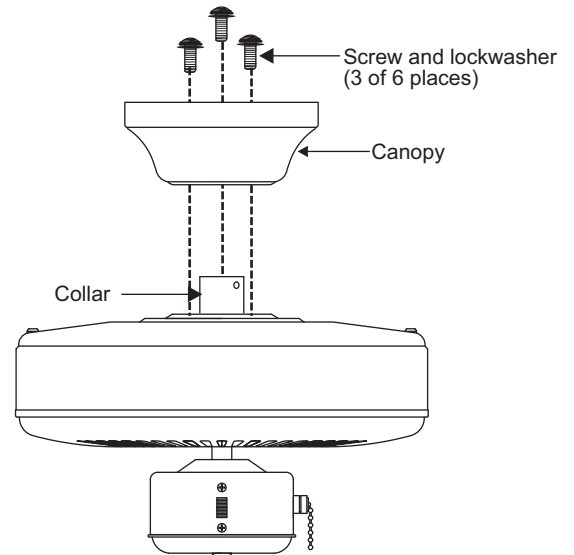

Figure 9
4. Remove three of the six screws and lock washers (every other one) from the collar of top motor. (Fig. 9)
5. Place the ceiling canopy over the collar at the top of the motor. Align the mounting holes with the holes in the motor and fasten using the screws and lock washers provided. (Fig. 9)
6. Tighten the mounting screws securely. (Fig. 9)